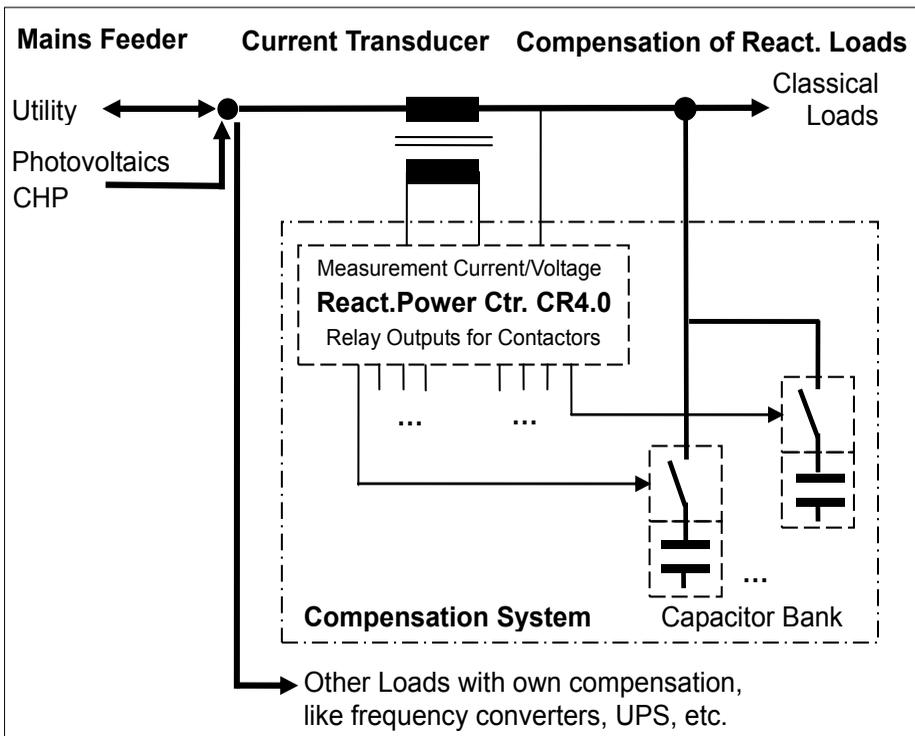

Figure 1
- The **current transducer** must be placed in-between all left sided feeding equipment and all right sided load equipment including the compensation system itself, see Figure 1 Installation Diagram on page 4. Loads comprising their own compensation (e.g. frequency converters, uninterruptible power supply UPS, etc.) should not be included in the reactive power compensation.
- **Reactive Power Compensation and Emergency Power Supply:** Usually it is recommended that a stationary emergency power plant should not be stressed by a reactive power compensation. The diesel generator itself is able to provide any reactive power needed. For this the emergency power plant has to be connected at the right side of the current transducer, see Figure 1 Installation Diagram. Then the reactive power compensation plant automatically idles when the emergency power plant takes over from the utility feeder.
If you have **power generators** (e.g. a photovoltaic plant) installed with the loads **on the right side** of the current transducer (see Figure 1 Installation Diagram)
With all feeder and the section switches at the left of the current transducer and all loads to be compensated and the compensation system itself at its right side, see Figure 1 Installation Diagram a standard compensation system fits.